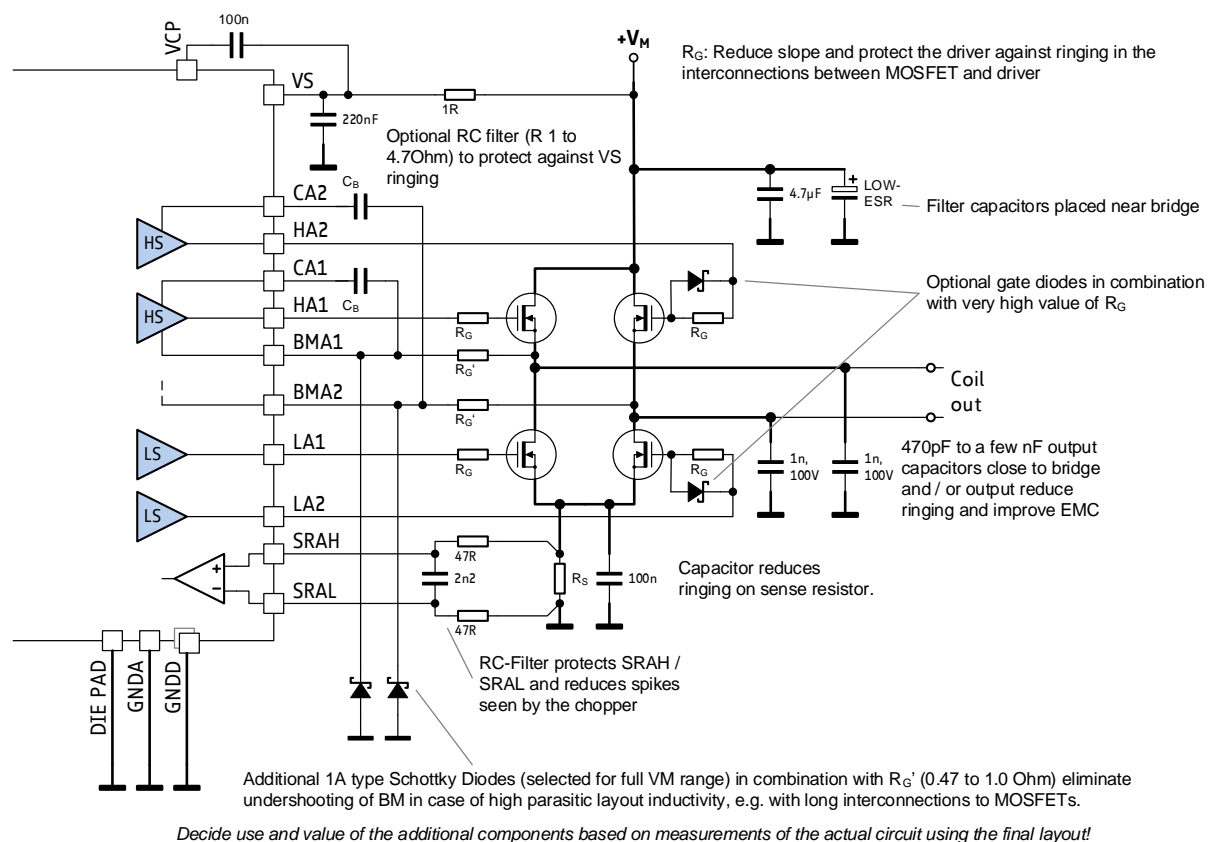
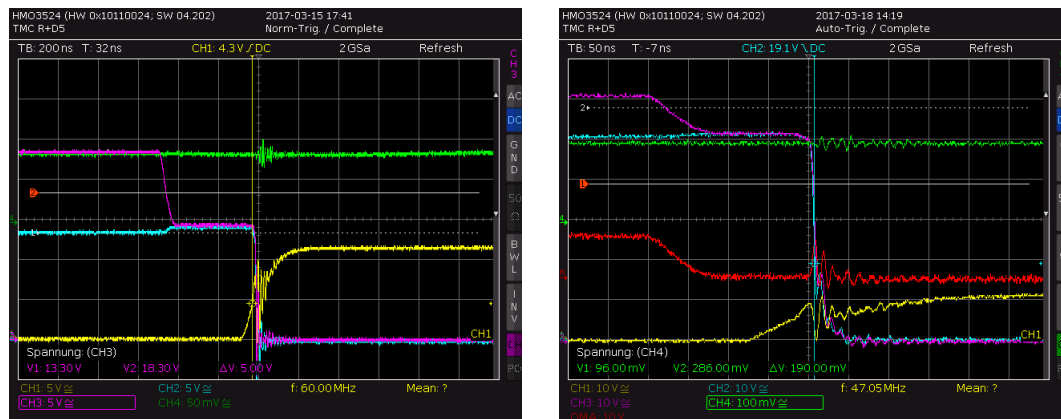
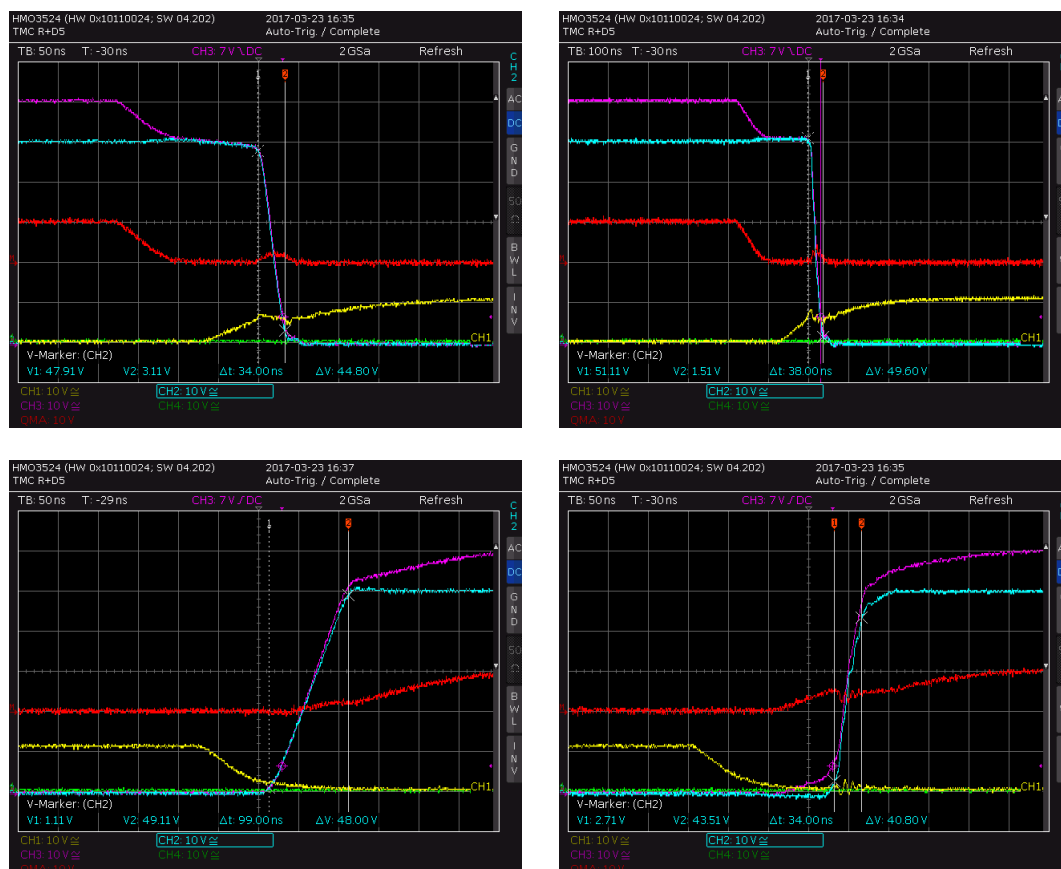
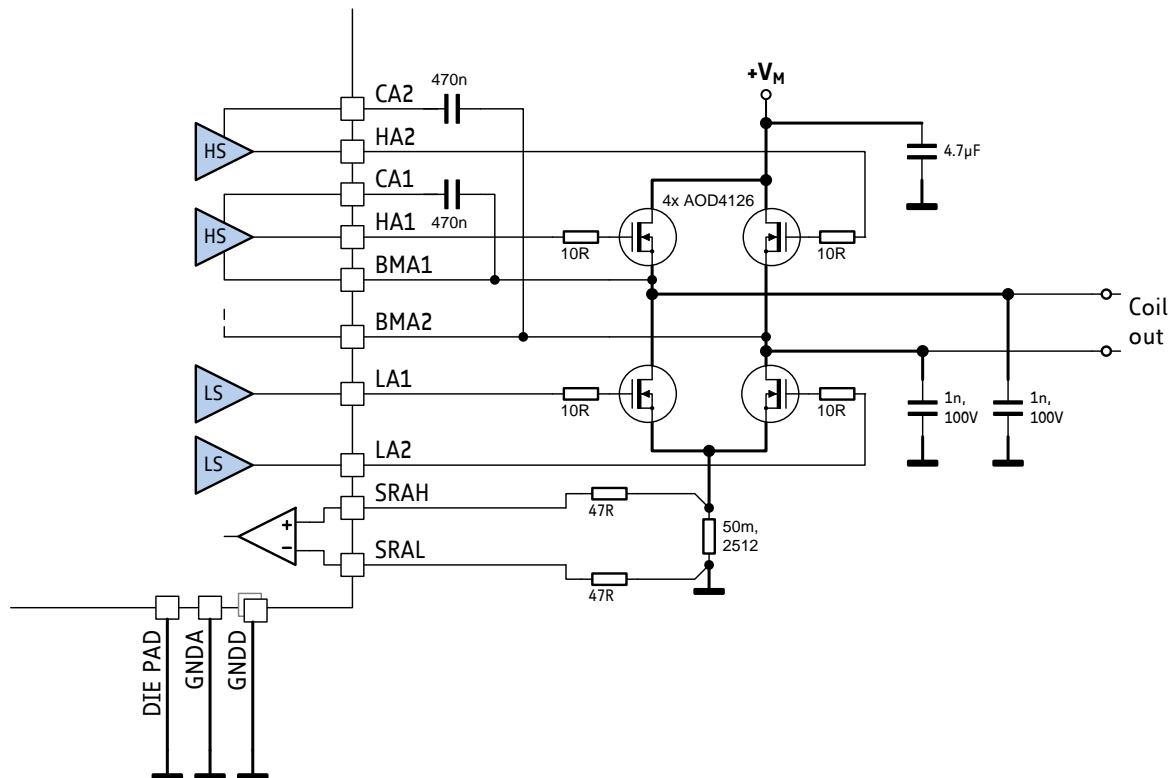

Figure 3.5 Bridge protection options for power routing inductivity
Figure 3.6 Ringing of output (blue) and Gate voltages (Yellow, Cyan) with untuned bridge
Figure 3.7 Switching event with optimized components (without / after bulk diode conduction)
Figure 3.8 Example for bridge with tuned components (see scope shots)
Stray inductance in power routing will cause ringing whenever the opposite MOSFET is in diode conduction prior to switching on a low-side or high-side MOSFET. Diode conduction occurs during break-before make time while the load current is inverse to the following bridge polarity. The MOSFET bulk diode has a certain, type specific reverse recovery time and charge. This time typically is in the range of a few 10ns. During reverse recovery time, the bulk diode will cause high current flow across the bridge. This current is taken from the power supply filter capacitors (see thick lines Figure 3.5). Once the diode opens, parasitic inductance tries to keep the current flowing. A high, fast slope results and leads to ringing in parasitic inductivities (see Figure 3.6) in the current path. This may lead to bridge voltage undershooting the GND level as well as short pulses on VS and all MOSFET connections. It must be ensured, that the driver IC does not see spikes on its BM pins undershooting GND more than 5V. Severe VS ripple might overload the charge-pump circuitry. Measure the voltage directly at the driver pins to driver GND. The amount of undershooting depends on energy stored in parasitic inductivities from low side drain to low side source and via the sense resistor RS to GND.
When using relatively small MOSFETs, a soft slope control requires a high gate series resistance. This endangers safe MOSFET switch off. Add additional diodes to ensure safe MOSFET off conditions in this case (shown for right MOSFET pair in Figure 3.5).
Figure 3.7 shows performance of the basic circuit after adapting switching slope and adding 1nF bridge output capacitors.
- Add optional gate resistors close to MOSFET gate and output capacitors to ensure clean switching and reliable operation by minimizing ringing. Figure 3.5 shows the options plus some variations.
The MOSFETs have a low gate capacitance and offer roughly 50ns slope time at the lowest driver strength setting. At lowest driver strength setting, switching quality is best (Figure 3.6), but still shows a lot of ringing. Low side gate resistors have been added to slightly increase switching slope time following high-side bulk diode conduction by increasing the effect of Gate-Drain (Miller) charge. High side gate resistors have been added for symmetry. Tests showed, that 1nF output capacitors dramatically reduce ringing of the power bridge following bulk diode conduction (Figure 3.7). Figure 3.8 shows the actual components and values after optimization.